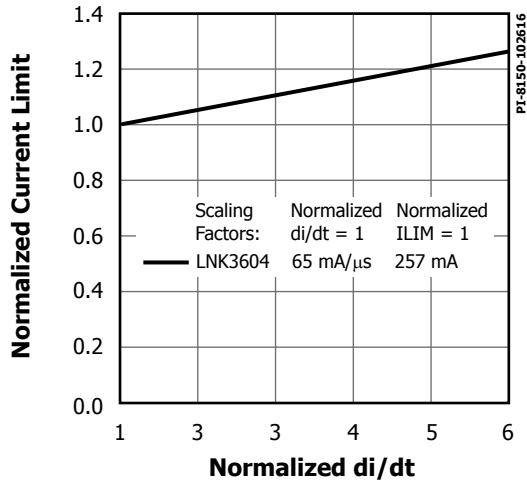

Figure 22. Default Current Limit vs. di/dt.
- For current limit at other di/dt values, refer to Figures 22, 23, 32 and 33.